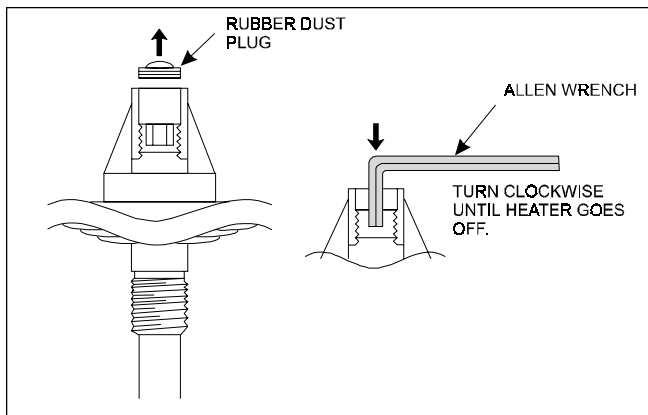

Figure 19. Pressure switch adjustment.
4. Turn rotary switch (LD) or rocker switch (LG) to ON. Heater should start.
6. Use a 7/32 inch (5.55 mm) Allen wrench to turn the adjustment screw very slowly clockwise until the heater goes off (see Figure 19).
- b. The system's water flow exceeds 125 GPM (474 LPM), and requires a manual bypass valve for proper operation (see Figure 19).